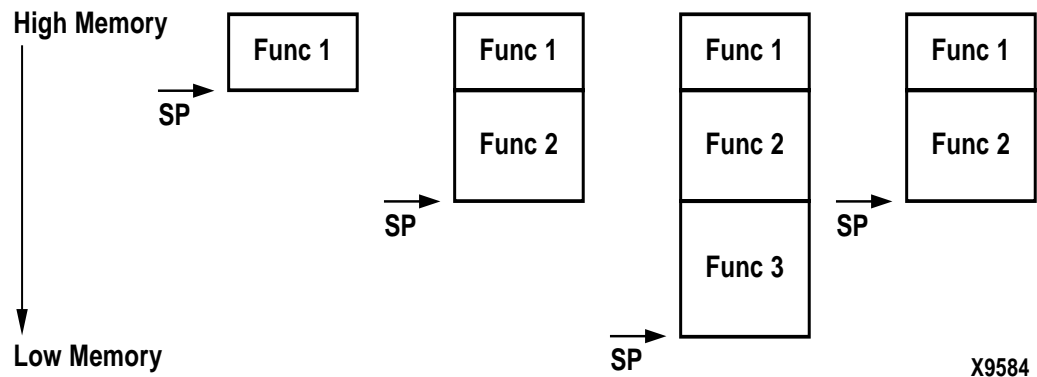

Figure 3-1: Stack Frame
Consider an example where Func1 calls Func2, which in turn calls Func3. The stack representation at different instances is depicted in Figure 3-1. After the call from Func 1 to Func 2, the value of the stack pointer (SP) is decremented. This value of SP is again decremented to accommodate the stack frame for Func3. On return from Func 3 the value of the stack pointer is increased to its original value in the function, Func 2.
Details of how the stack is maintained are shown in Figure 3-1.
Refer to Figure 3-1. The parameters for Func 2 are stored either in the registers R5 through R10 or on the stack frame allocated for Func 1.